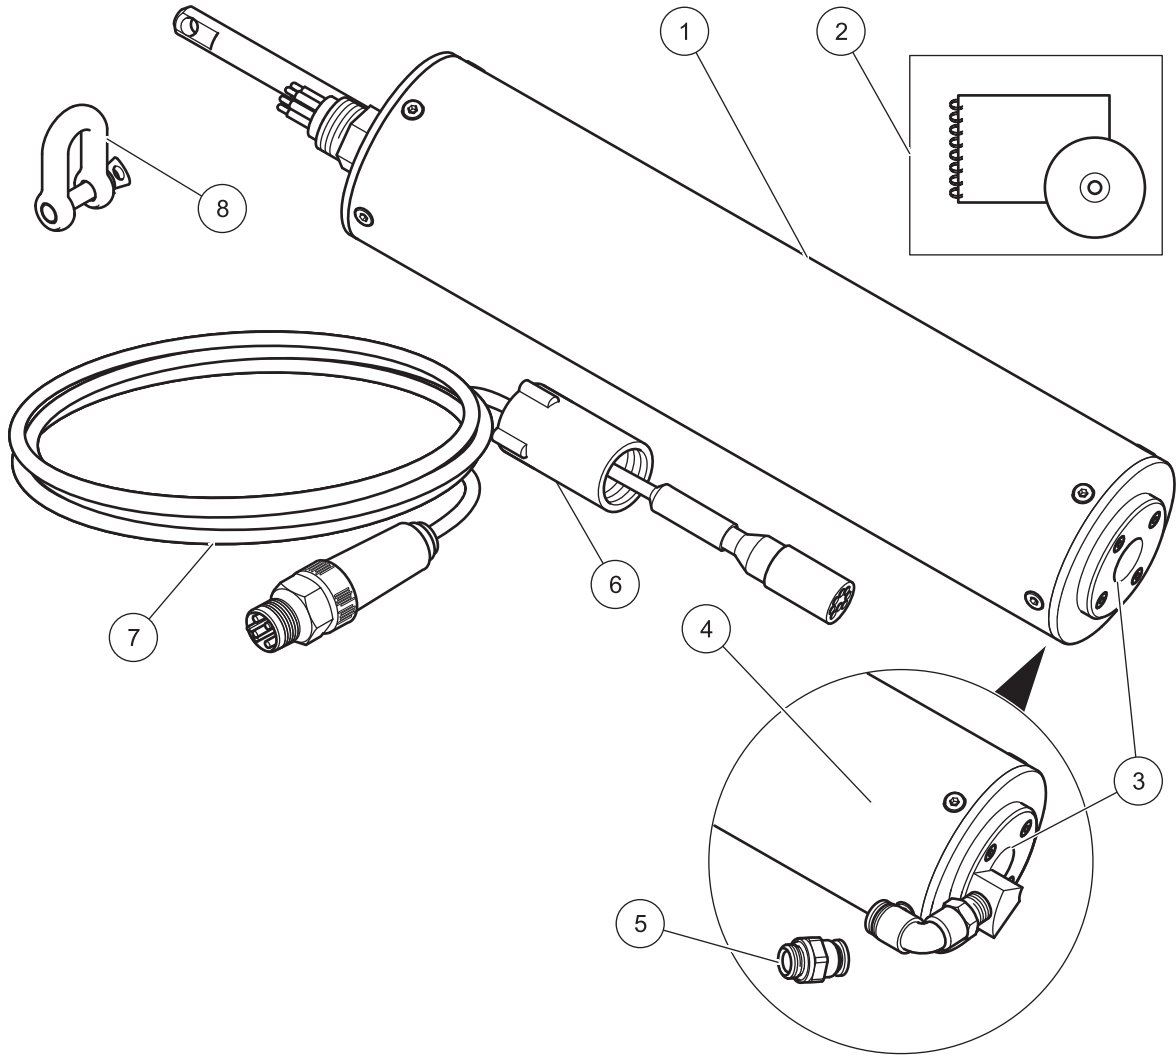

Figure 2 FP 360 sc sensor
The sensor is available in a variety of types (refer to section 7.1 on page 27). Refer to Figure 2 to make sure that all components have been received. If any of these items are missing or damaged, contact the manufacturer or a sales representative immediately.
With the HOAB compressed air cleaning system, replace the end of the hose connection that is connected to the compressed air on the underside of the instrument with the straight 6 mm fitting (refer to Figure 2 on page 9, item 5) supplied with the probe.